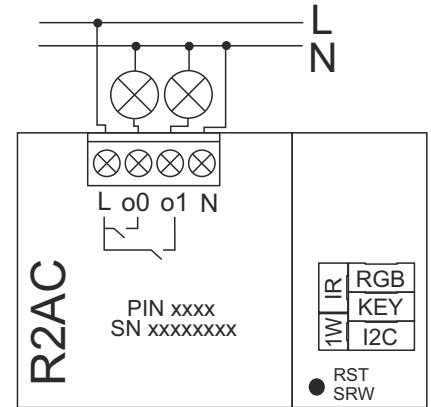

Fig.1 Wiring diagram connector
- Note of the card PIN and Serial Number (SN) device (Both located on the housing of the device)
- Connect the cables N, L, o0, o1 as on Fig.1